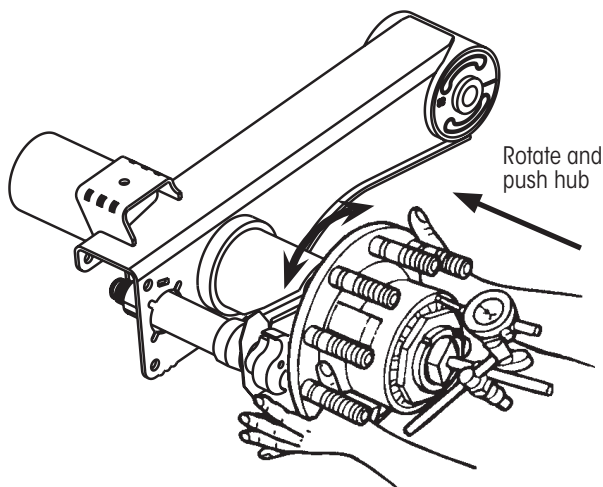

Figure 5: Checking inward end-play
NOTE: A reasonable assessment can be performed without removing tires and rims. However, this procedure is best performed with hub only as shown in Figure 5 on page 8.
8. **Grasp** hub flange, as shown in Figure 5, and **push the hub inward while rotating** hub slightly in both directions (between two hub cap fastener holes) until the dial indicator reading remains constant. **Record** reading.